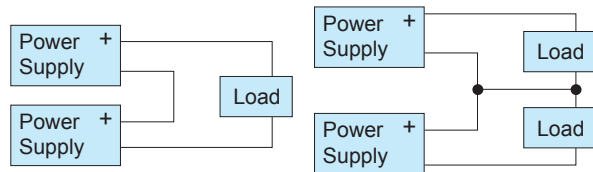

Fig.3.1 Examples of series operation
■ Parallel operation is shown in Fig.3.1.